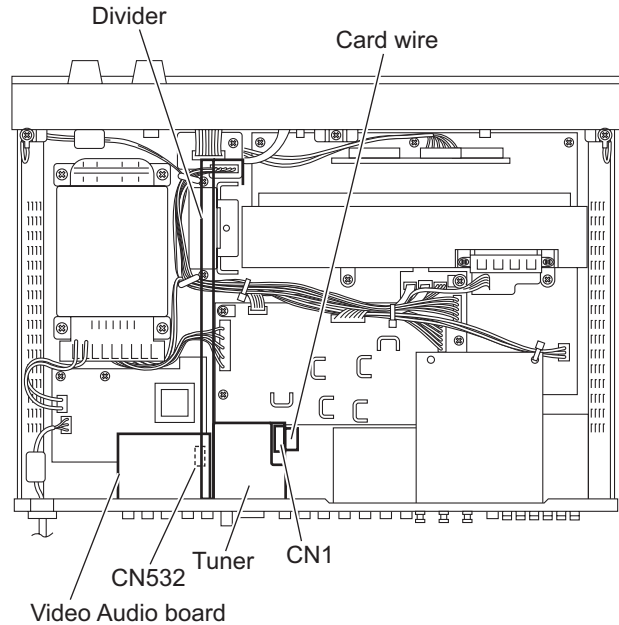

Fig.7
3.4 Removing the tuner (See Figs.7 and 8)
- (1) From the top side of the main body, disconnect the card wire from the connector CN1 on the tuner. (See Fig.7.)
3.5 Removing the video/audio board (See Figs.7 and 8)
- (3) From the top side of the main body, take out the video/audio board from the main body and disconnect the card wire from the connector CN532 on the forward side of the video/audio board. (See Fig.7.)
Remove the divider as required. (See Fig.7.)